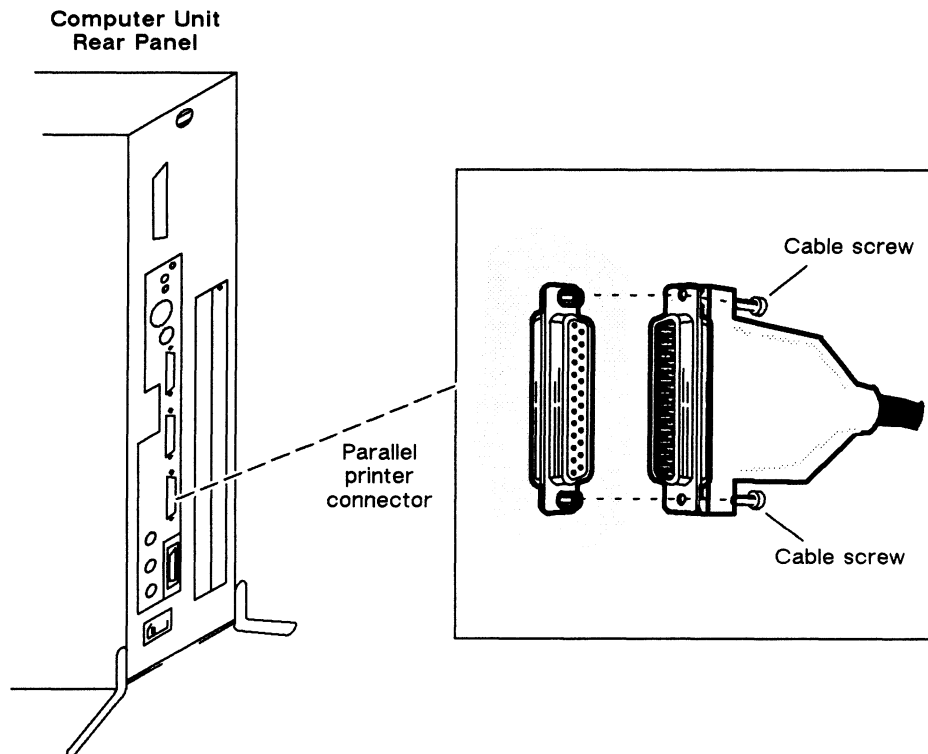

Figure 2-3 Connecting a Parallel Printer to the Computer Unit
1. Plug one end of the printer cable into the parallel printer connector on the back of the computer unit, shown in Figure 2-3.